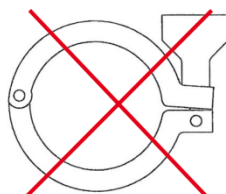

Fig. 2
- ⇒ It is not allowed to mount clamps with deformed side pieces (Fig. 2).